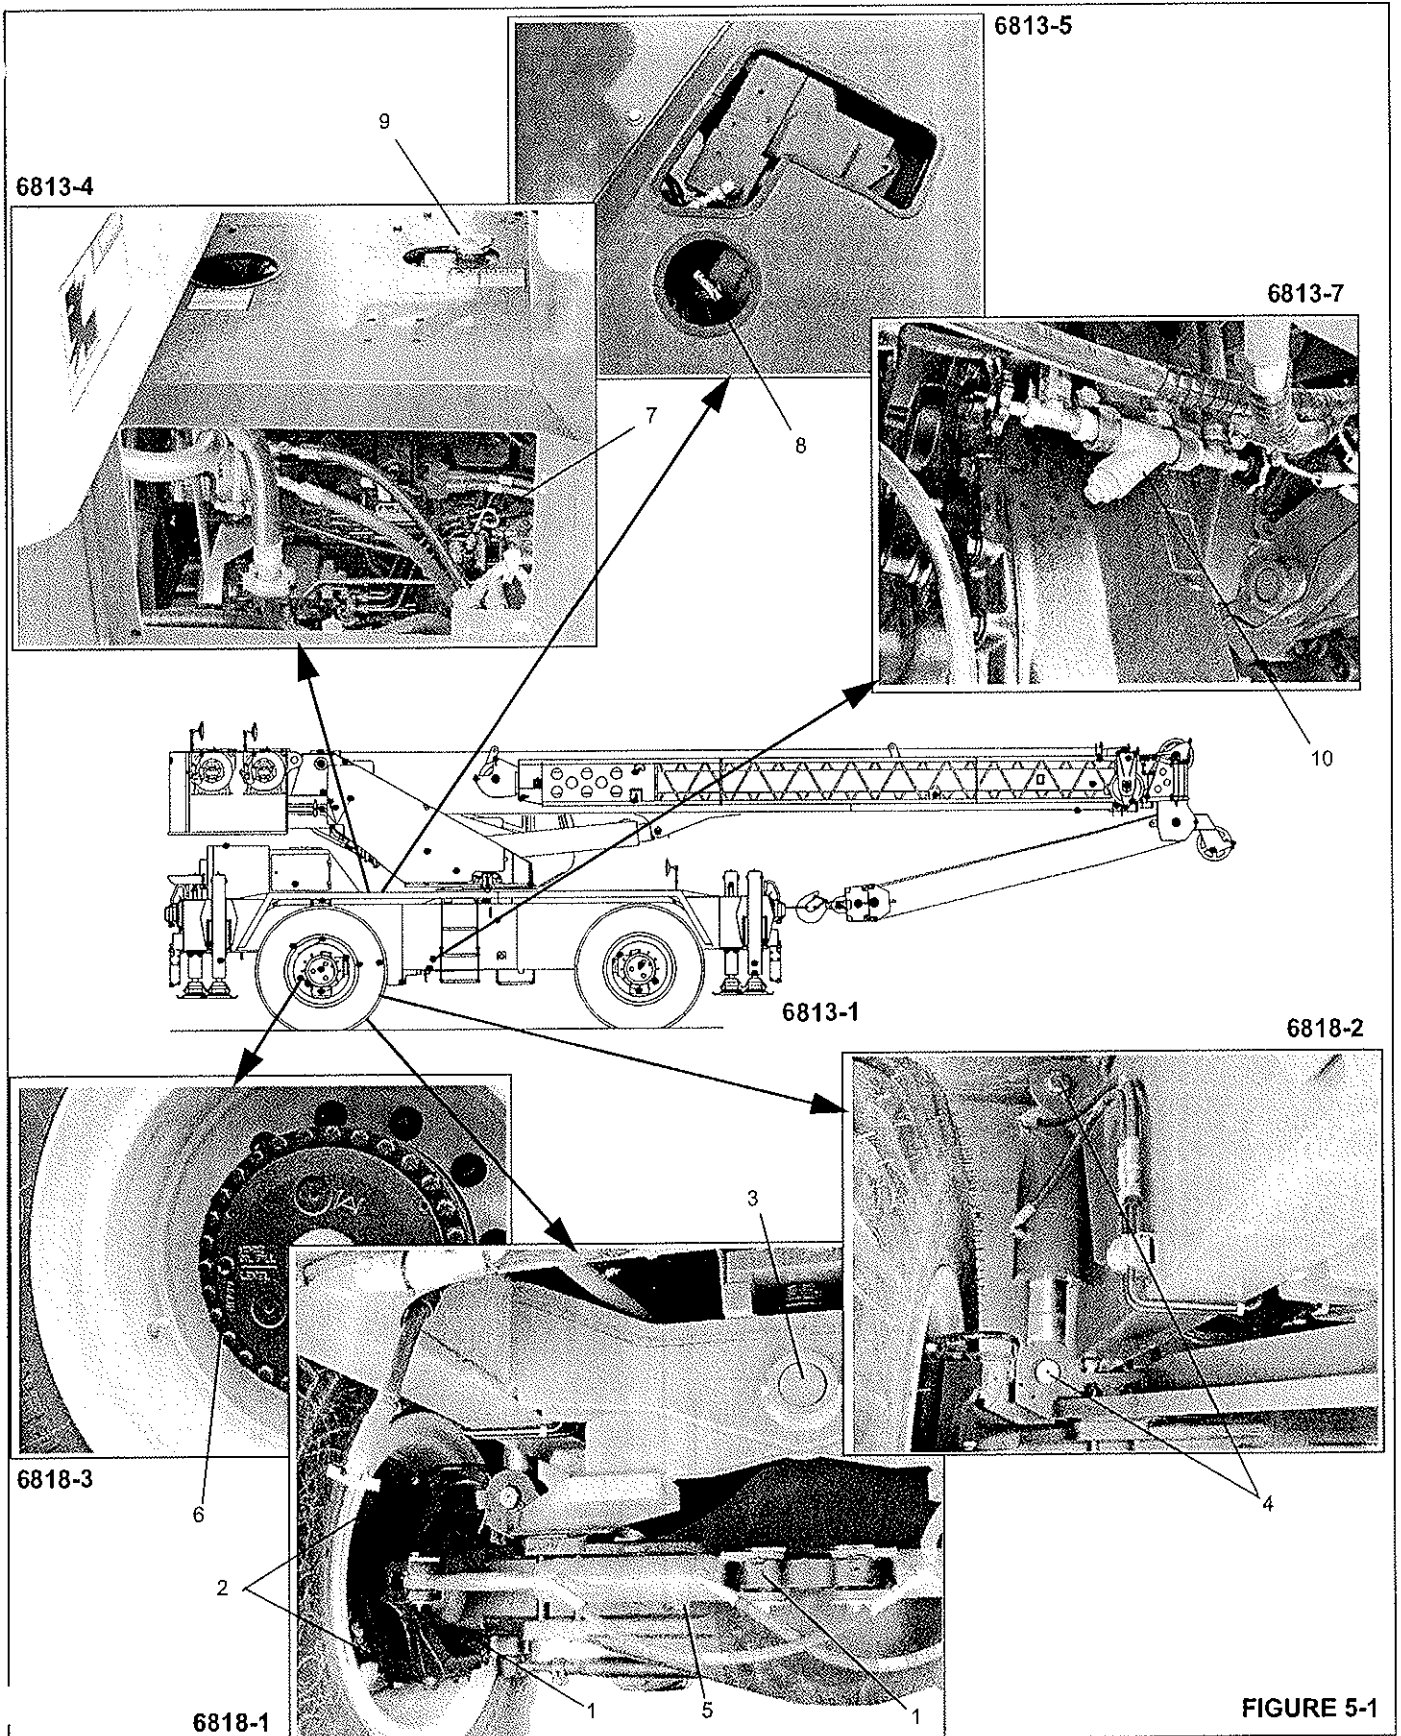
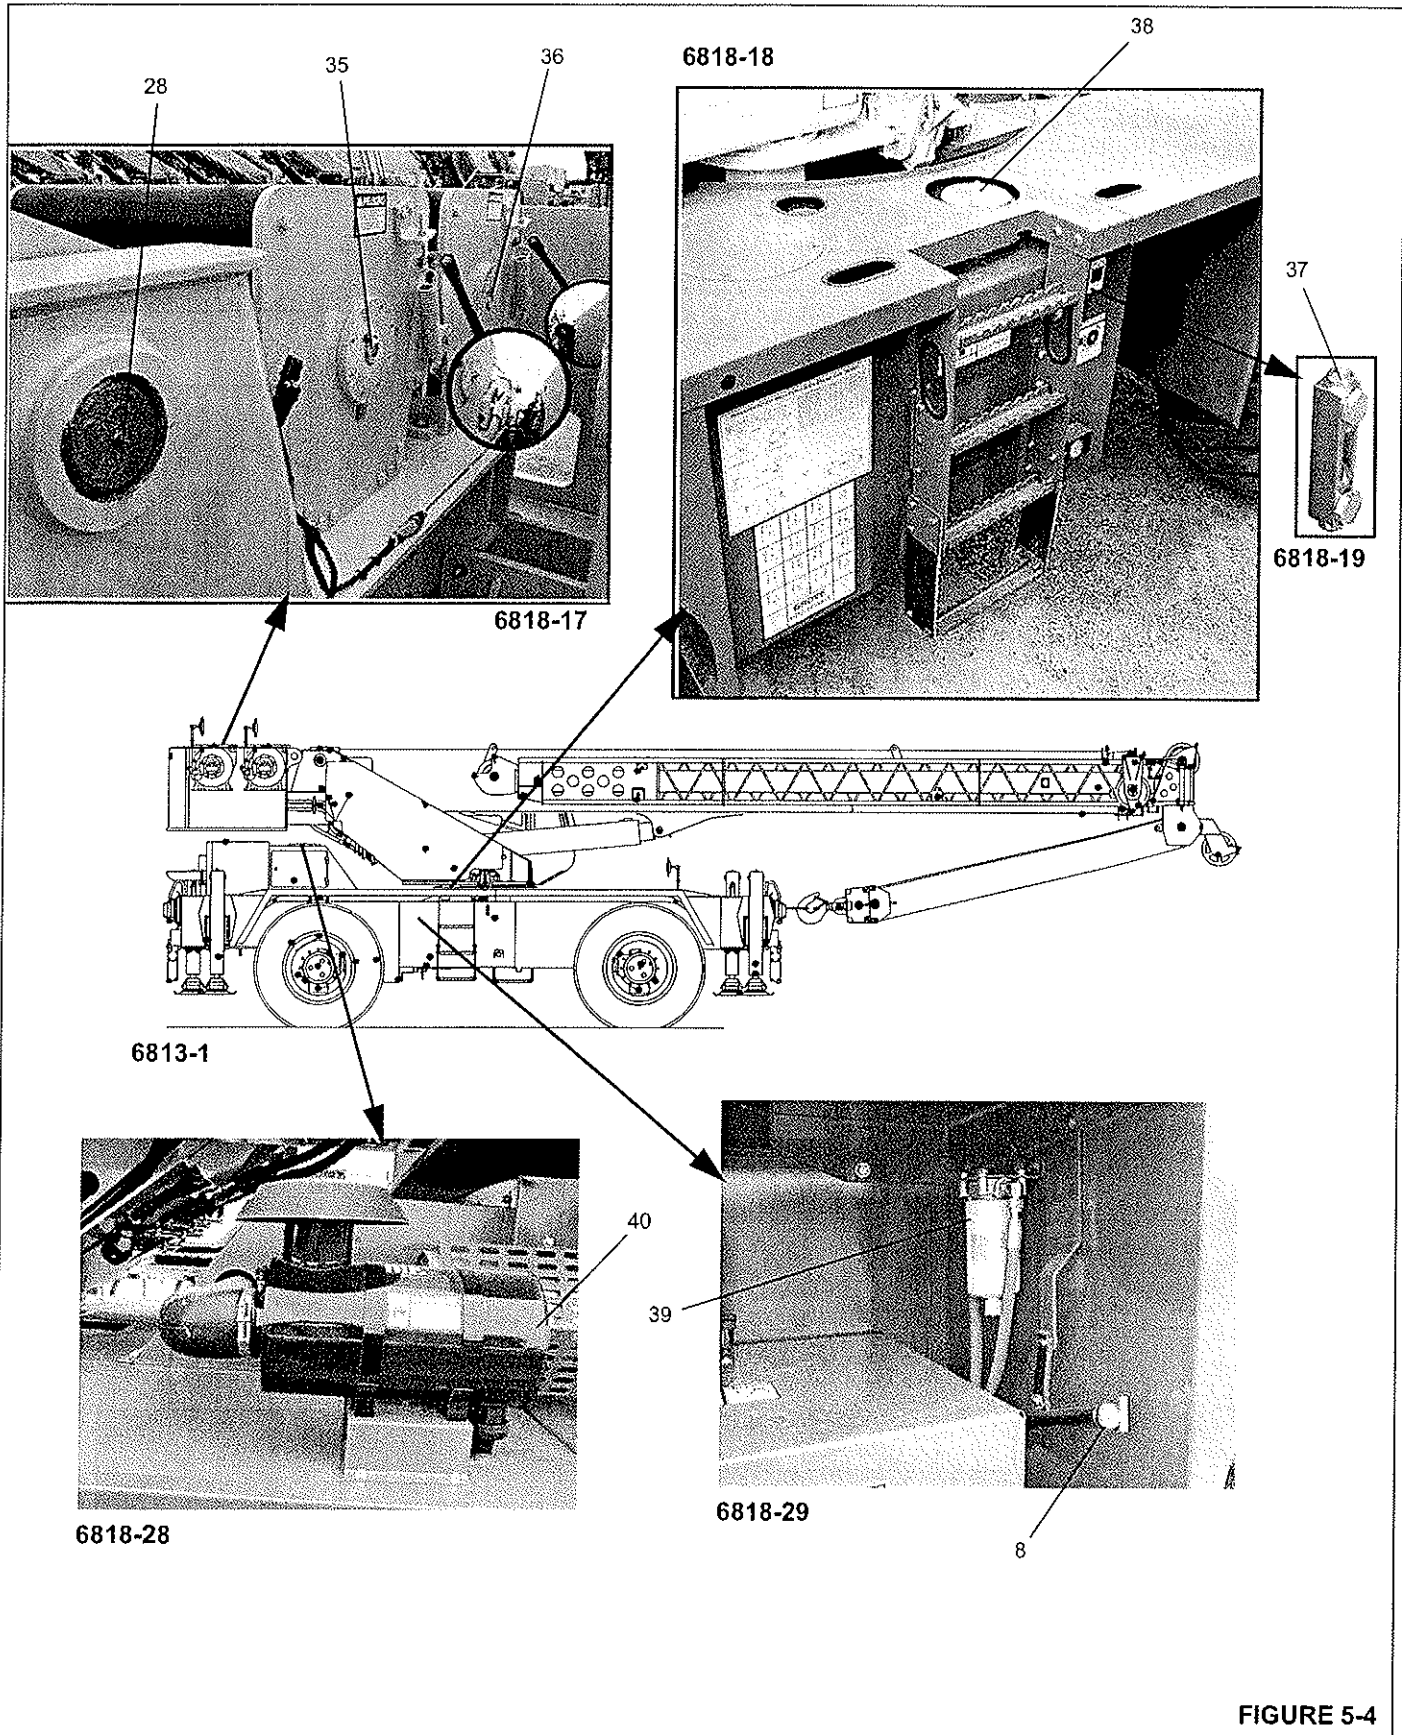

FIGURE 5-1
FIGURE 5-4
The following describe the lubrication points and gives the lube type, lube interval, lube amount, and application of each. Each lubrication point is numbered, and this number corresponds to the index number shown on the Lubrication Figures 5-1 thru 5-4. Lube description and symbols are found in (Table 5-1) and (Table 5-2).
## 1. Steering Cylinder Pivot Pins (1). (Figure 5-1)
## 2. Upper and Lower King Pins (2). (Figure 5-1)
## 3. Fifth Wheel Pivots (3). (Figure 5-1)
## 4. Lockout Cylinder Pivot Pins (4). (Figure 5-1)
## 5. Differentials (5). (Figure 5-1)
## 6. Planetary Hubs and Wheel Bearings (6). (Figure 5-1)
**DRIVE TRAIN LUBRICATION****7. Engine Crankcase (With Filter) (7). (Figure 5-1)**
**8. Transmission, Torque Converter and Filter (8). (Figure 5-1) and (Figure 5-4)**
**9. Engine Cooling System (9). (Figure 5-1)**
**10. Coolant Strainer (Cab Heater Supply) (10). (Figure 5-1)**